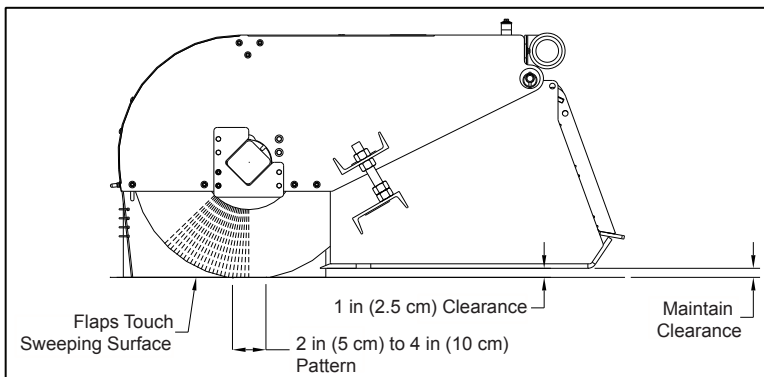

figure 3
- b. Adjust the top 1 inch nut to set the pattern. Tighten (clockwise) to increase pattern. Loosen (Counterclockwise) to decrease pattern. (figure 3)
- c. When the pattern is set, tighten the bottom 1 inch nut. (figure 3)